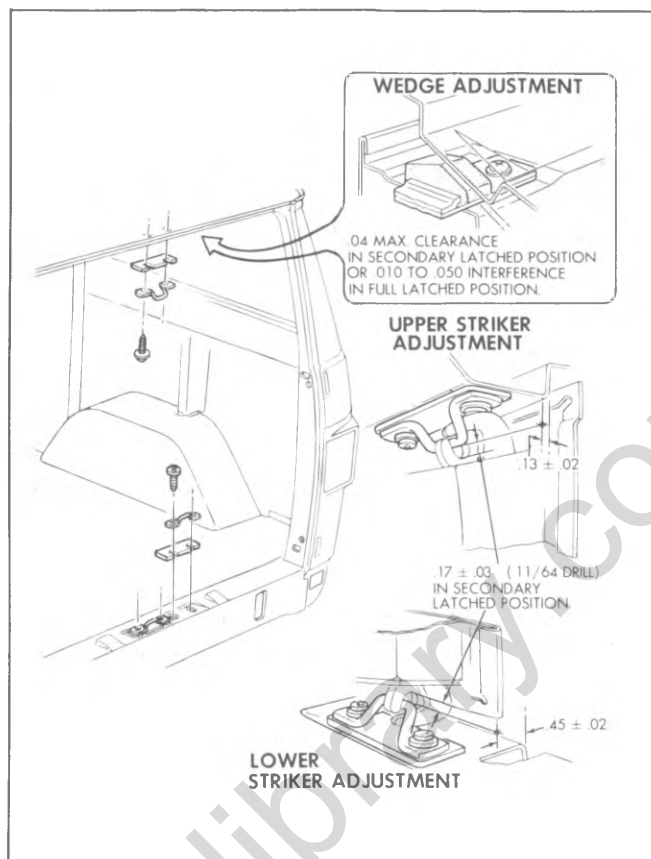

Fig. 2D-128--Rear Door Striker and Wedge Adjustment
2. Adjust door wedge by adding or deleting shims as necessary so that wedge contact ramp on body when door is closed. See figure 2D-128.